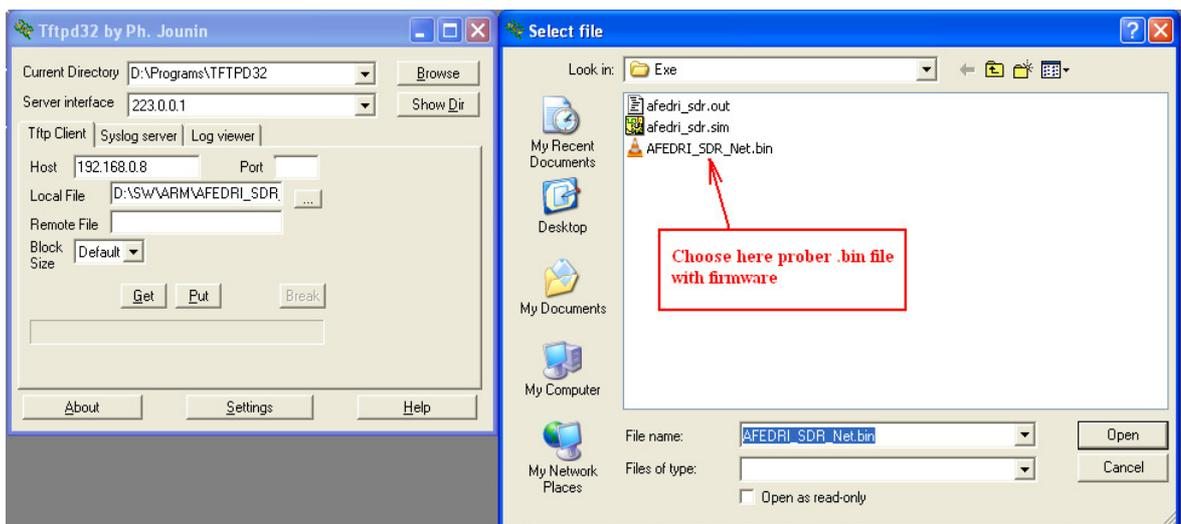

Figure 10 Tftpd32 utility, "Select File" dialog
3.1.6. To choose firmware file (it has .bin extension), press button "Local File" and find firmware file in "Select file" dialog that is appearing after the button was pressed. (see **Figure.10**)